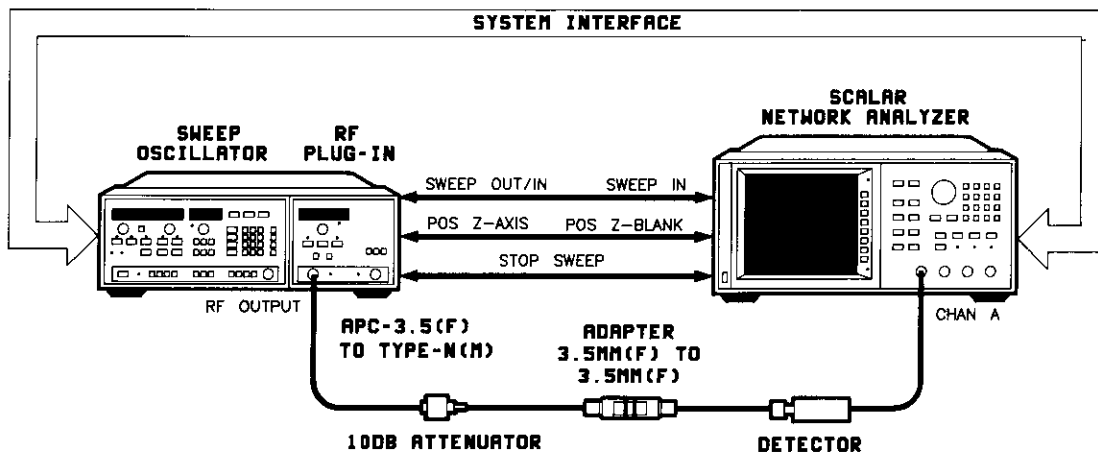

Figure 5-47. Power Sweep Adjustment Test Setup
1. Connect the equipment as shown in Figure 5-47. Allow 30 minutes for warm-up.